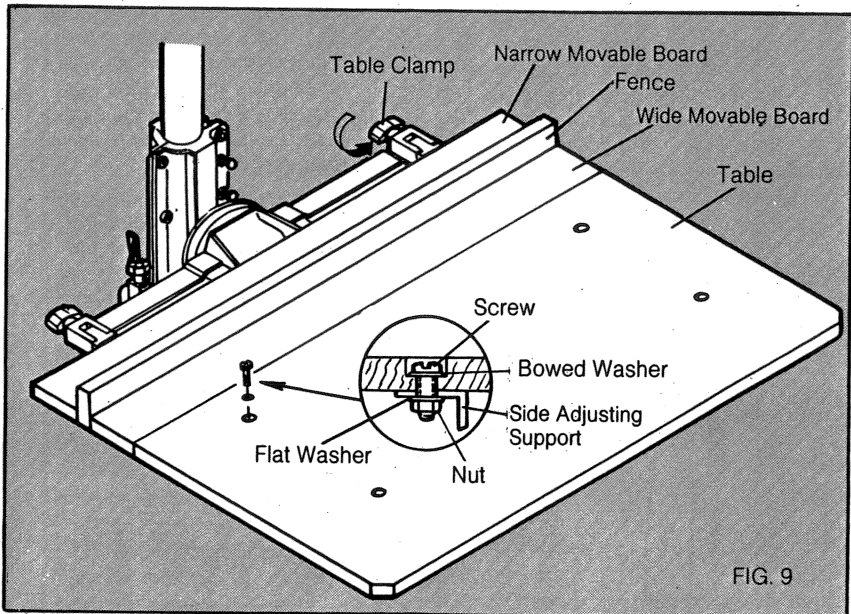

FIG. 9
- The worktable consists of four elements (Fig. 9):
1. Secure table to the side adjusting support using the four screws and the relative washers and nuts (Fig. 9) (the screws, washers, nuts are in Hardware bag C) making sure that the holes in the middle of the board locate over the central support flanges of the table adjusting screws in the base frame.